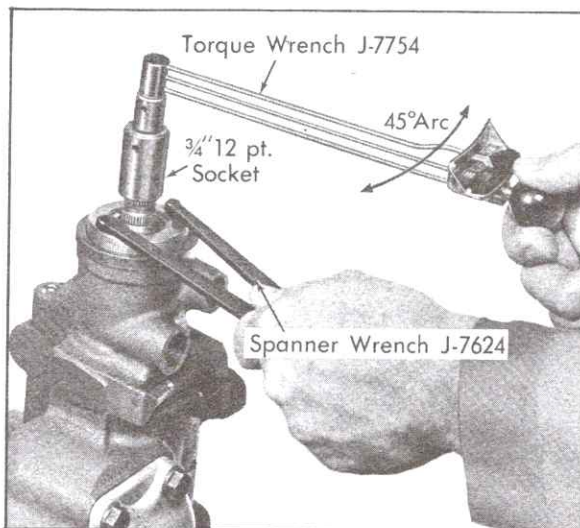

Fig. 9-37 Adjusting Thrust Bearing Preload
b. Install 0-25 inch-pound Torque Wrench, J-7754, with a 3/4 inch 12-point socket on stub shaft splines, Fig. 9-37.